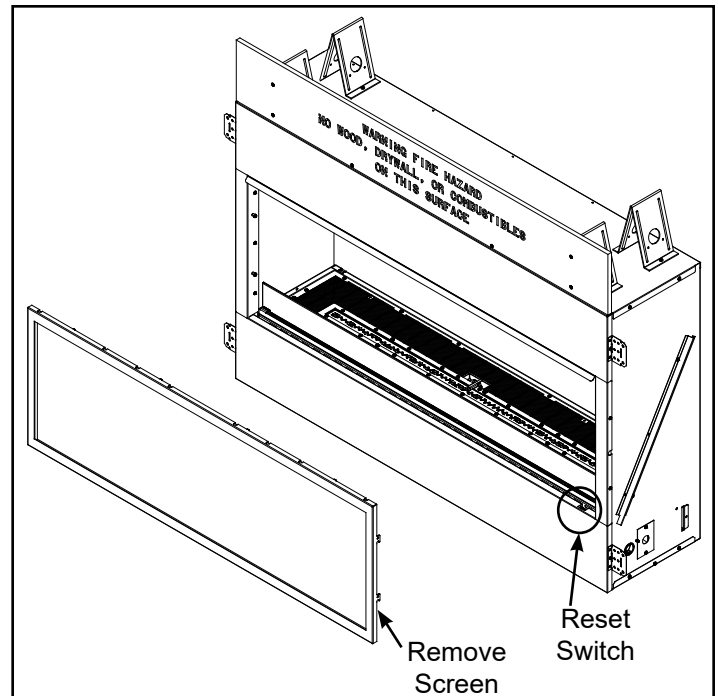

Figure 8.6 Reset Switch
- Turn the reset switch in the front face to the off position. See Figure 8.6.